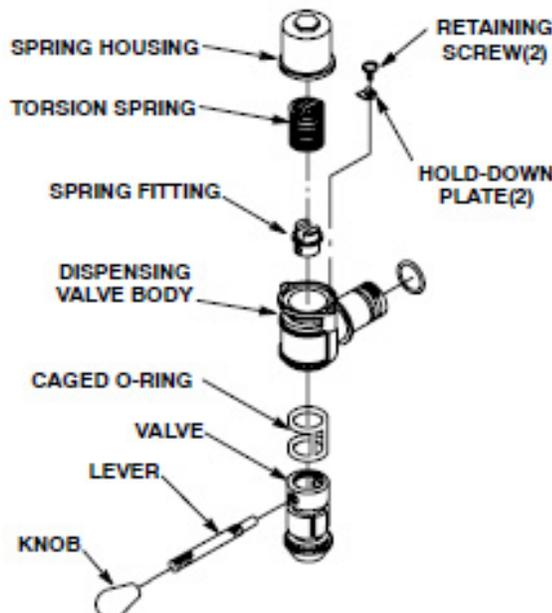

Figure 36. Self-Closing Dispensing Valve
Refer to Figure 36. and perform the procedure in Table 40. to lubricate or change the caged o-rings in each dispensing valve on the unit.
6.	Disassemble the dispensing valve (see Figure 36.).